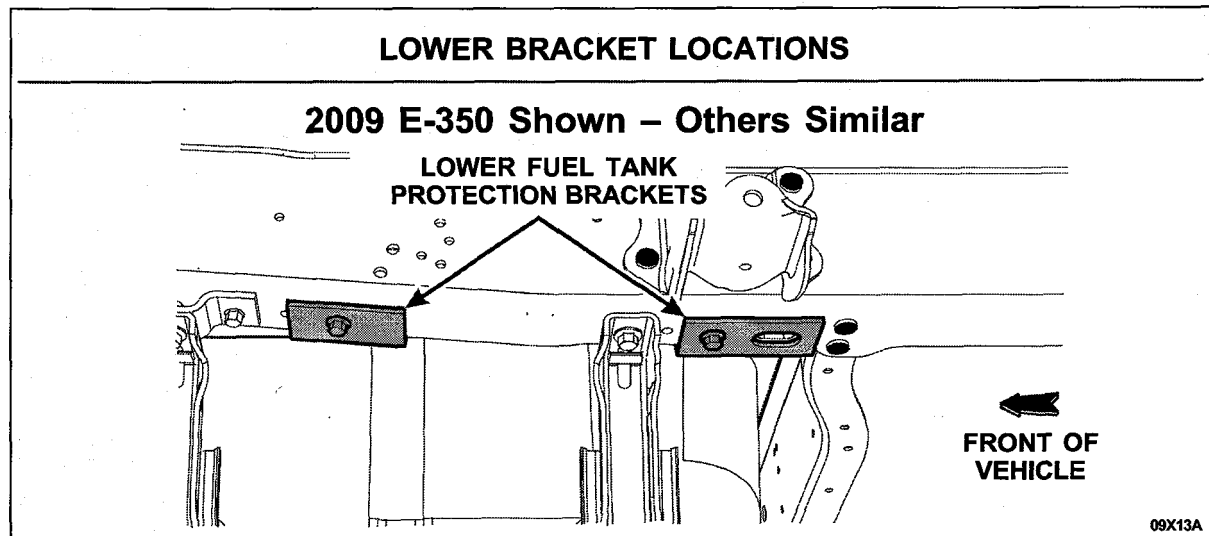

FIGURE 1
1. **2008 and 2009 model year** – Inspect the bottom of the LH frame rail below the rear spring shackle for the 2 lower fuel tank protection brackets. See Figure 1.